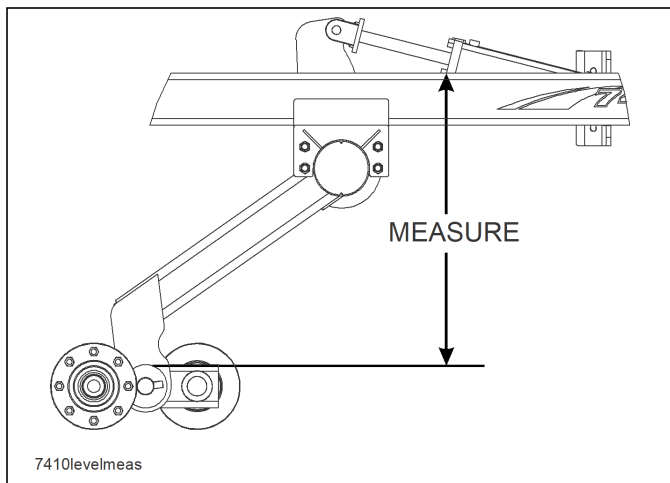
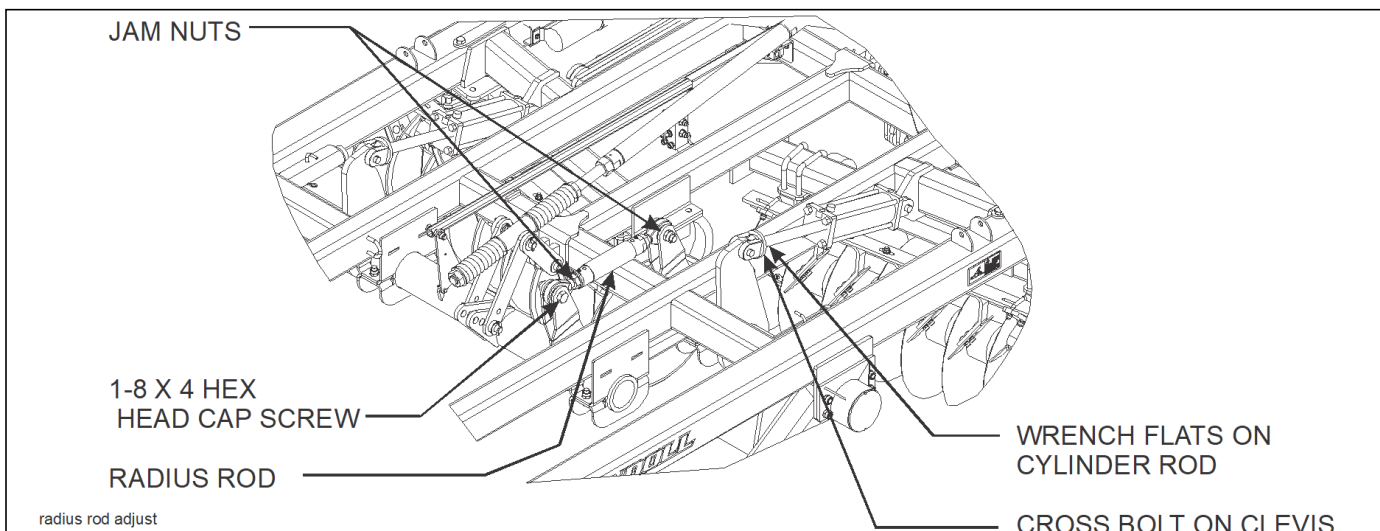

Figure 4-5: Leveling from Side to Side
Figure 4-6: Leveling the Center Frame
- d. Measure the distance from the walking beam spindle to the top of the frame on both sides (**See Figure 4-5.**) If there is a difference, it needs to be adjusted by turning the cylinder rods with the wrench flats provided at the clevis end (**See Figure 4-6.**)